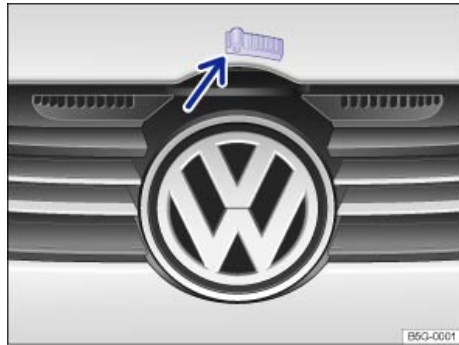

Fig. 166 Above the radiator grille: Outside engine hood release.
- Push the outside hood release lever ⇒ fig. 166 (arrow) and lift the hood all the way up. A gas-filled strut will hold the hood up.